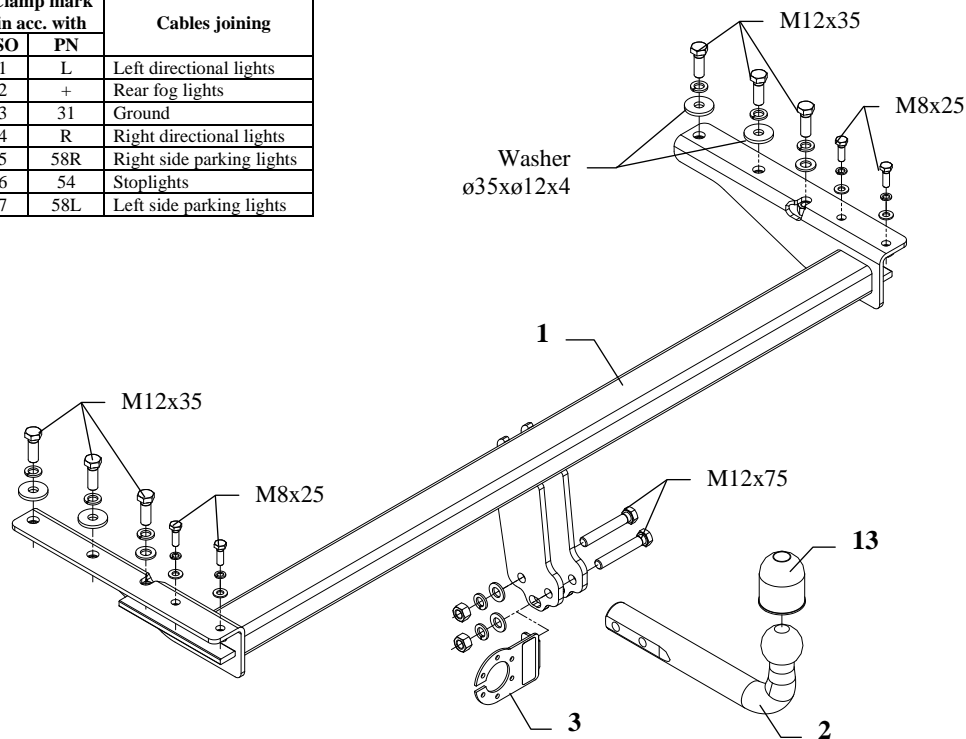
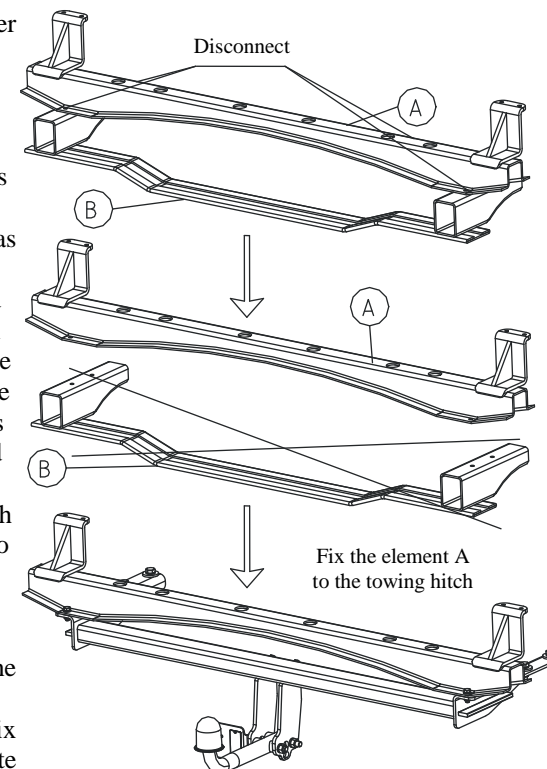

Fig. 1
Fig. 2
- Disconnect the metal fulfilment as showed on the fig. 2.
- Element B (see fig. 2) not used anymore, whereas element A (see fig. 2) one ought to fix to the main bar of the towing hitch (see fig. 1, pos. 1) using bolts M8x25mm (pos. 6) as showed on the fig. 2.
- So prepared towing hitch fix with the bumper, which one ought to slip into chassis members, then fix using bolts M12x35mm (pos. 5) as showed on the fig.
- To so prepared towing hitch fix tow-ball (pos. 2) and socket plate (pos. 3) by bolts M12x75mm (pos. 4) from accessories.